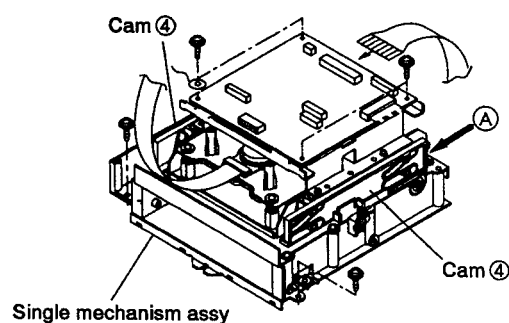

Fig. 3
2. With both hands, push on the cams ④ (one each on the right and left) of the single mechanism assy, at the position indicated by arrow ⑤ in Fig. 3 (the position is the same with the other cam), fully towards the front panel.